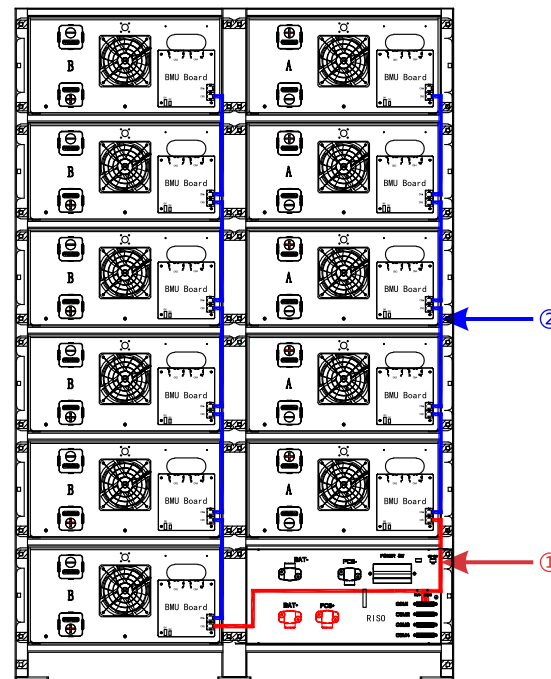

Figure-19 Battery cluster communication cable wiring diagram
2). According to the wiring position of Figure-19, connect the No. 3 series DC copper bar to each cluster first, then connect the No. 1 serial DC cable, then connect the No. 4 serial DC copper bar, and finally connect the No. 2 cable.